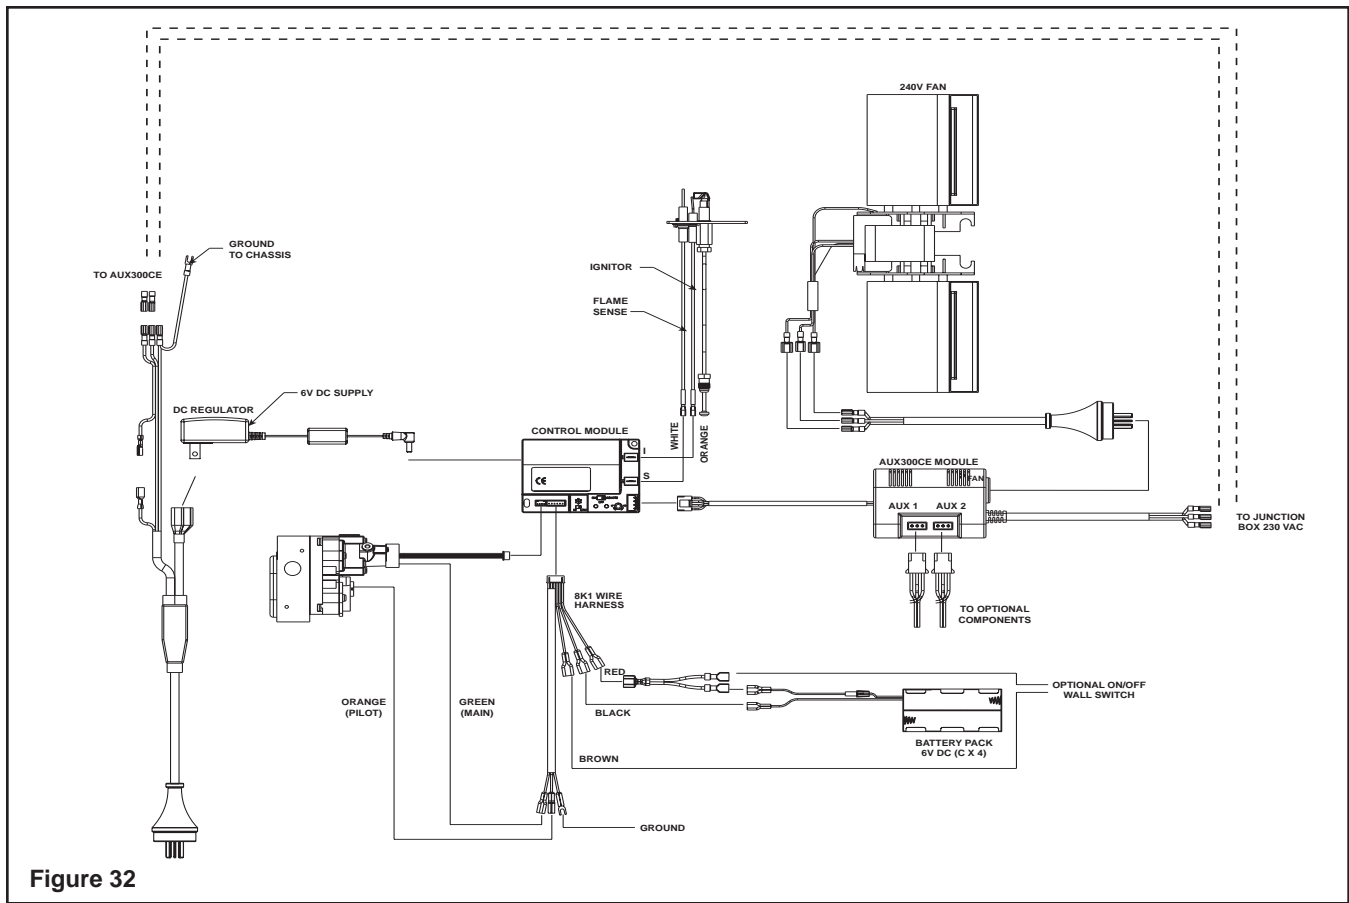

Figure 32
2. A wall switch can be wired into the control module brown and red wires. See Figure 32.